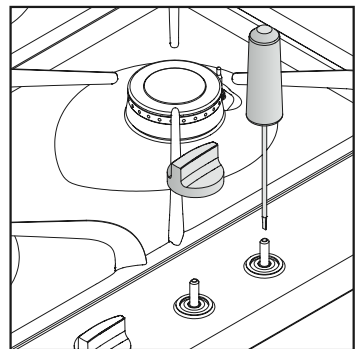

figure 6
- 3 Rotate the turn down screw slowly until a minimum regular flame is achieved. (The flame will diminish when the screw is turned clockwise and increase when turned anti-clockwise (see fig.6).